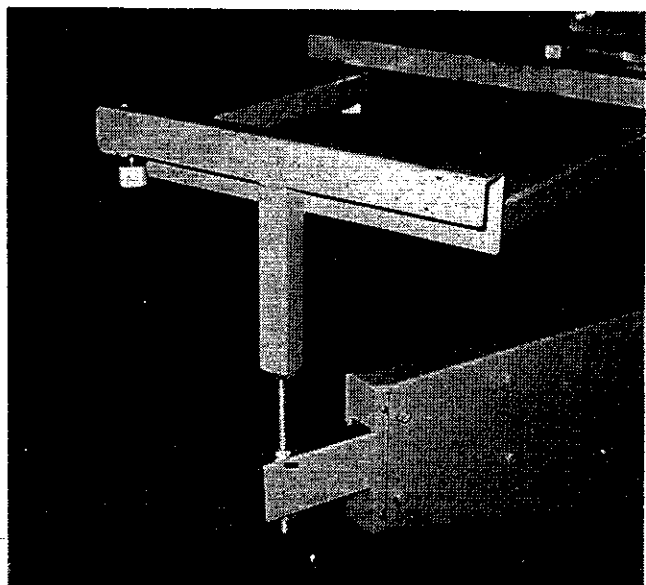

FIG. 6.
2. Lift outer end of extension table only sufficient to allow swinging arm outer pivot to be located in extension table as shown in FIG.6.